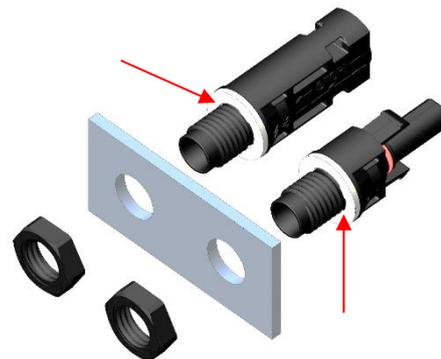

Figure 16
- ✧ 在公/母面板连接器插入钻孔前，请确保已安装防水垫圈，且防水垫圈安装在墙板的外侧(如图 16)。
Please ensure seal gasket is located on the insulation before mounting the plastic insulations through the bore. In mounting position, the seal gasket must lie even on the outside of the mounting surface (Fig.16).